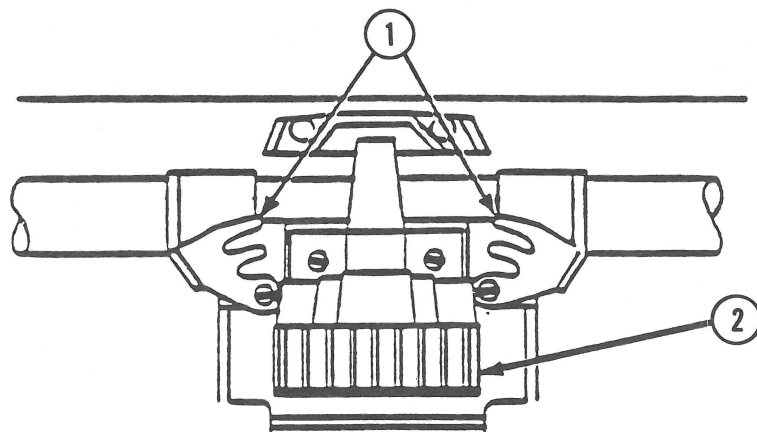

FIGURE 18
4. To free the print head, slide out both print head latches (Figure 18, #1).
5. Pull up the print head (Figure 18, #2). If you have trouble getting it out, pull the paper roller shaft forward. Ease the print head around the roller shaft.
1. Push in the print head (Figure 18, #2). If you have trouble getting it in, pull the paper roller shaft forward. Ease the print head around the roller shaft.
2. To lock the print head in place, slide in the two print head set latches (Figure 18, #1).